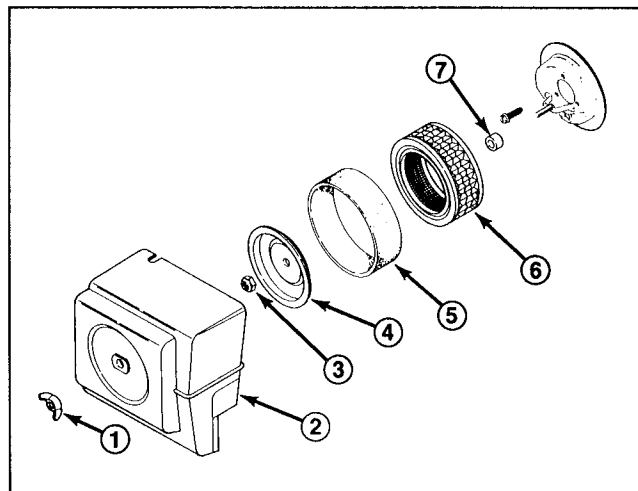

Figure 33
1. Remove wing nut and cover (Fig. 33).
5. Reinstall element with pre-cleaner, element cover seal, air cleaner element cover, nut, air cleaner cover and wing nut (Fig. 33).